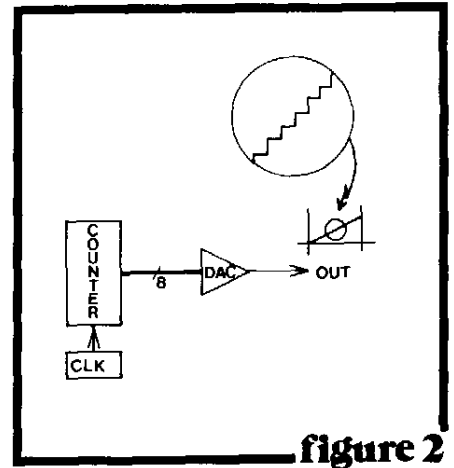
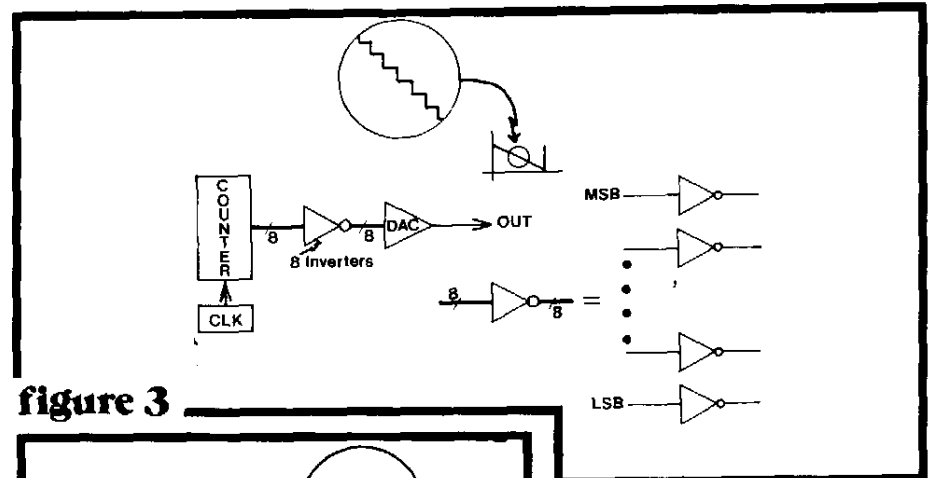
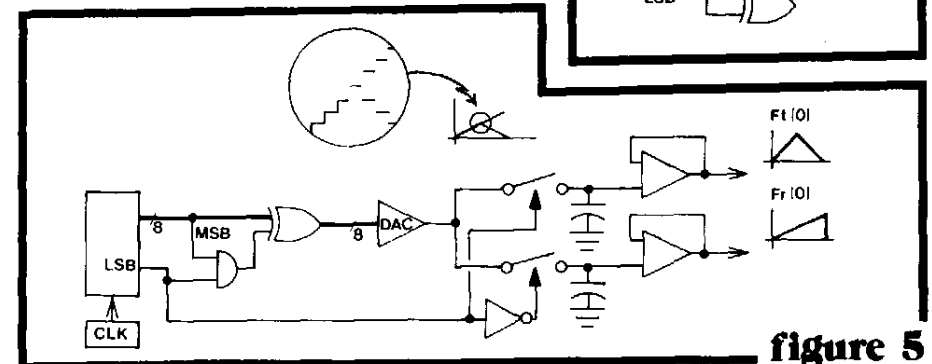

figure 2
figure 3
figure 5
No doubt, but let's look at a way to do essentially the same thing with counters, DACs, MUXes, and such...things we can get today. Figure 2 shows some components which we'll use in the Shepard Function Generator (as you probably realize, a counter connected directly to a DAC generates ramps). If the counter is counting up, upward sloping ramps come out. Having the counter count down, or inverting the counter output before it gets to the DAC, produces downward ramps (see figure 3).
If we're interested in generating only a single function pair, it's a simple matter to pick up a new Least Significant Bit on the counter and use it to effectively switch back and forth between the circuitry of figures 3 and 4, producing first a small section of the ramp, and then a small section of the triangle. This new LSB also switches between two sample-and-hold circuits to de-multiplex the composite output of the DAC. Figure 5 shows how a little more logic gives $F_r(0)$ and $F_t(0)$.
Figure 7 shows a block diagram of the complete Eight Phase Shepard Function Generator which results when we include an added IC to calculate digital phase offsets and de-multiplex the output with 8/1 analog switch ICs; figure 8 shows the schematic for the complete Shepard Function Generator. In the same way that the circuit of figure 5 alternately generated pieces of Fr(0) and Ft(0), the Shepard Function Generator sequentially puts out pieces of Fr(0), Ft(0), Fr(1), Ft(1), Fr(2).....Ft(6), Fr(7), Ft(7).
The next "Less Significant" bit can be thought of as switching back and forth between ramps and triangles, as in figure 5. And since figure 7 is a block diagram of our working Shepard Function Generator, and not just theoretical like the previous figures, the Least Significant Bit of the counter serves as a strobe which allows time for the DAC to settle